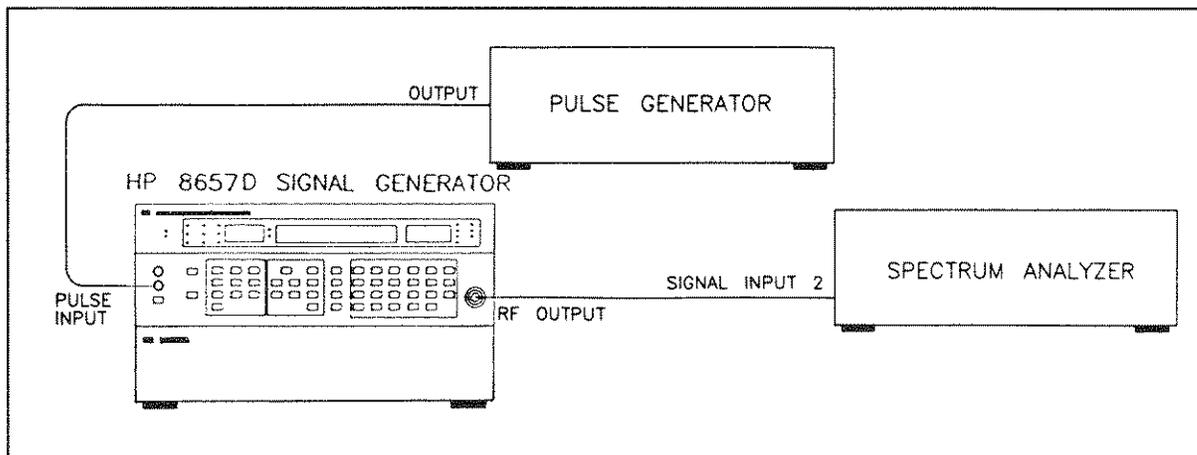

Figure 4-14. Pulse On/Off Ratio Test Setup
38. Connect the equipment as shown in Figure 4-14.